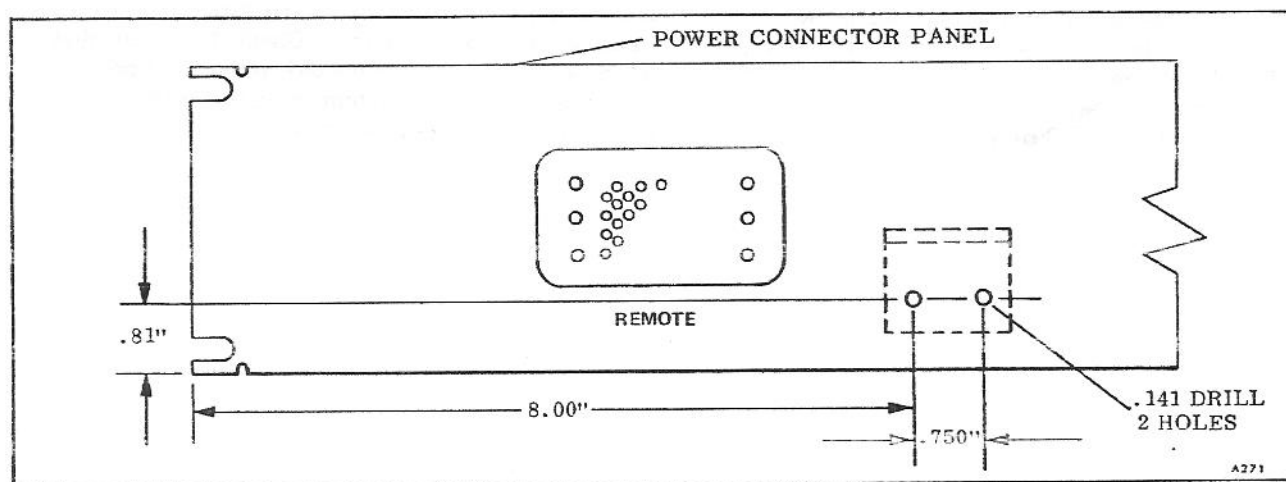

Figure 2-2. Relay Bracket Mounting
a. Remove the power (remote control connector and ac input connector) panel from the console frame. Mark and drill the panel according to Figure 2-2, taking care not to place excessive strain on wiring connections.
b. Mount the relay socket, item 4 of the kit parts list, on the relay bracket, item 1, using the retainer spring, item 3 of the parts list.
c. Connect the diode, item 8 of the parts list, between terminals 13 and 14 of the relay socket, with the cathode (banded end) to pin 13 (do not solder).
d. Mount the assembled relay bracket and the terminal strip TS1 (item 7 of the parts list) on the connector panel using items 5 and 6 of the parts list.